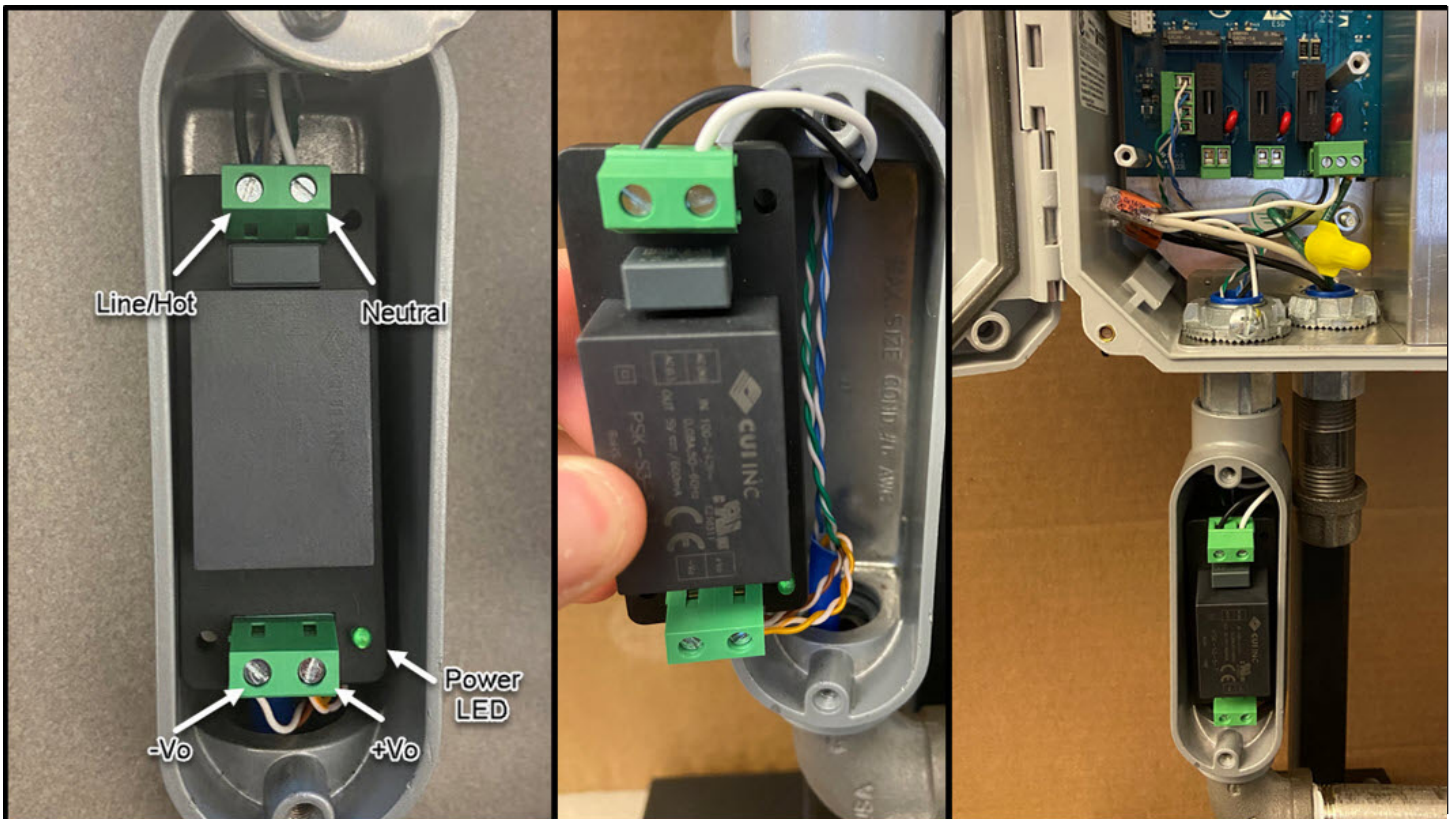

Figure 7: Connected AC/DC converter
18. Lead both of the 8-inch white and black wires through the opening in the bottom of the 1218C Console that the 1218CT Power Converter Module is secured to. Wire them to the AC/DC converter, ensuring that the black wire is secured to the hot/line “AC(L)” terminal and the white wire is secured to the neutral “AC(N)” terminal, shown in Figure 7.
19. Connect both orange twisted pair wires of the ethernet cable leading to the +Vo pin of the AC/DC converter, shown in Figure 7.
Important Note: Ensure the orange and brown twisted pair wires are connected to the terminal block next to the Power LED, referenced in Figure 7. Failure to connect these wires correctly could result in damages to the AC/DC Converter.